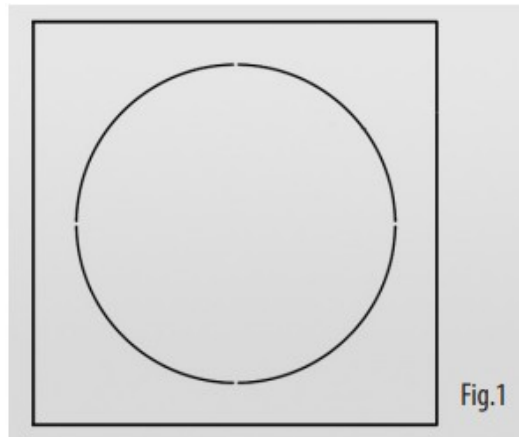

Fig.1
1. Mark the cut-out area on the ceiling by tracing around the template provided. (Fig.1)